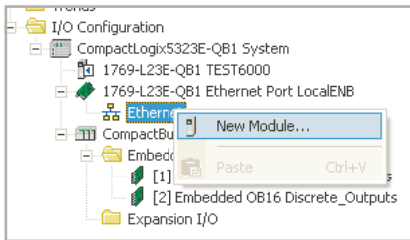

Figure 4.3.21l Right click on the EtherNet symbol
1. In the left pane tree-view of the RSLogix 5000 window, right click on the EtherNet symbol and select 'New Module...' from the menu (figure 4.3.21l).